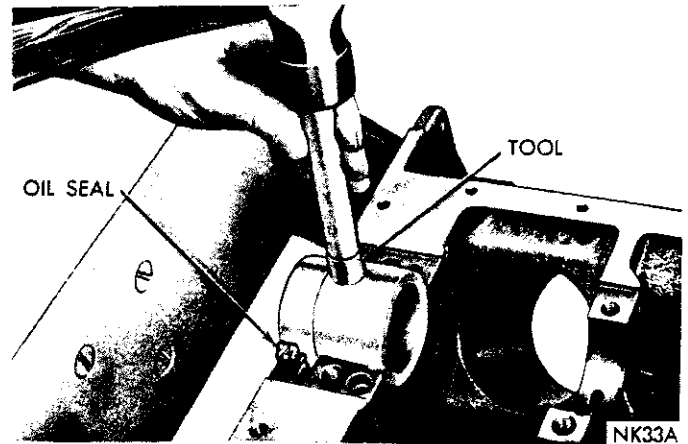

Fig. 46—Installing Rear Main Upper Oil Seal
(1) Install a new rear bearing oil seal in the cylinder block so that both ends protrude.
(2) Using Tool C-3511 tap seal down into position until tool is seated in bearing bore, (Fig. 46).